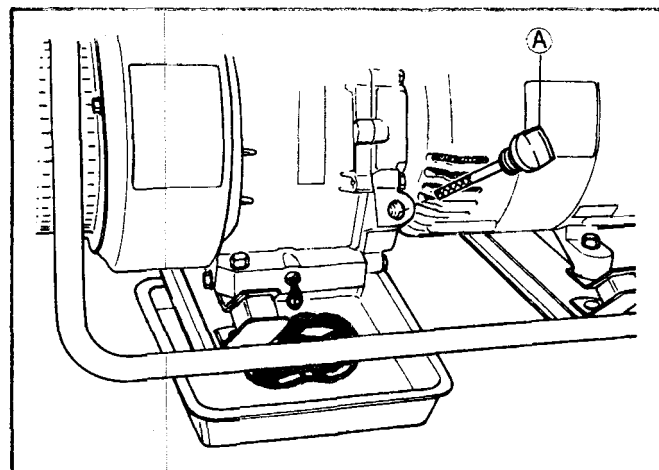

Figure 2
3. Position and drain pan under the engine and remove the drain plug. See Figure 2.